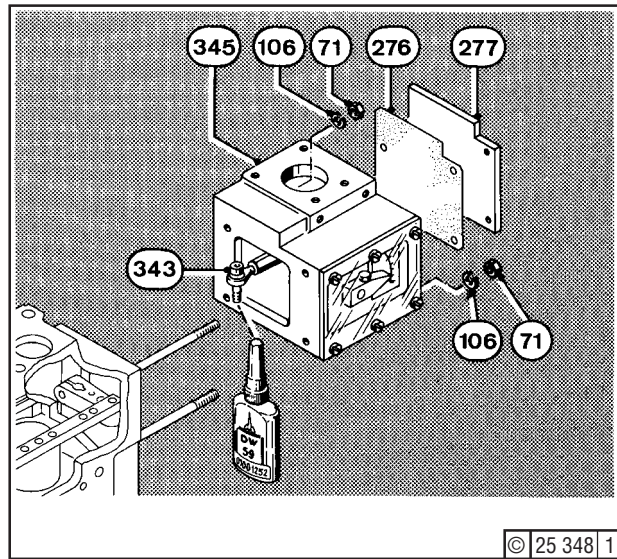

Fig. 5
Remove connection rod (55) (job 05.04.14). Unscrew plug screw (64) - Fig. 2 - with sealing ring (206). Loosen and remove the cheese head screw (343) - Fig. 5 - underneath in the pump housing. Remove cover (277) and gasket (276). Take off the hex. nut (71) inside housing (345) with lock washer (106), and withdraw housing from the injection pump.